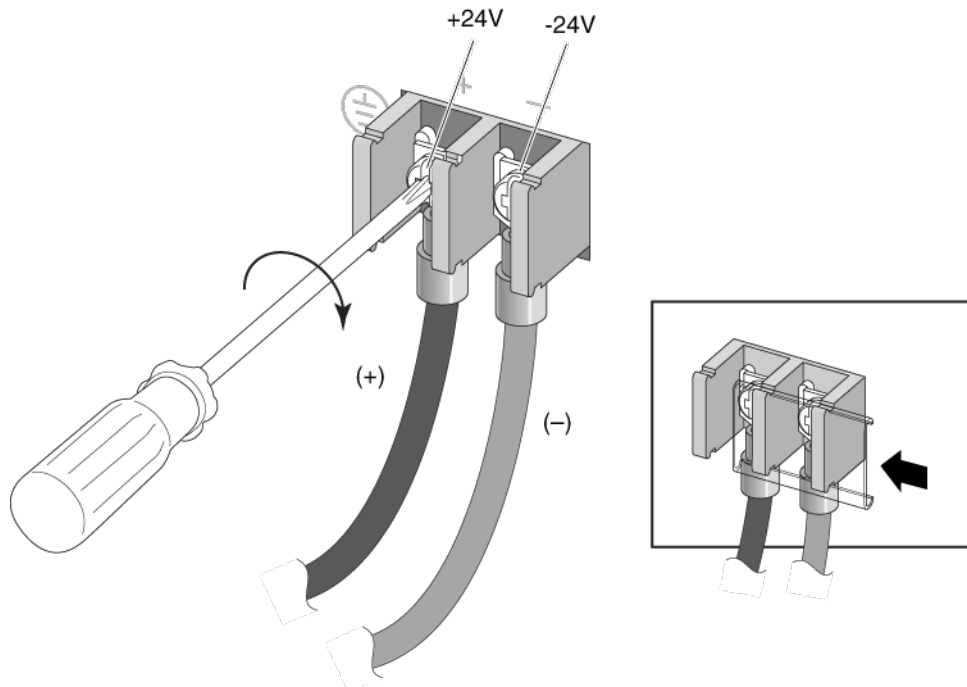

Figure 225: Connecting the DC Power Cables: Part 2
- d Tighten both screws on the terminal block to 15.9 in-lb (1.8 N-m) as shown in Figure 225.